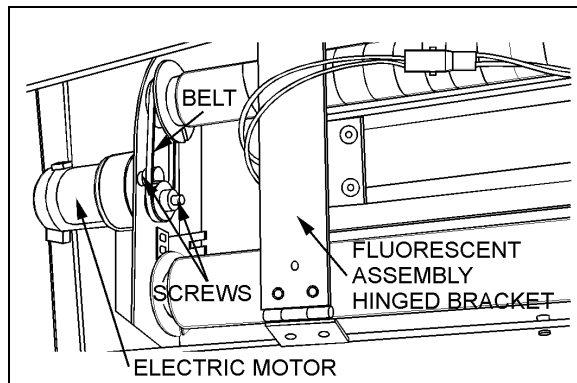

FIGURE 20: DESTINATION SIGN-ELECTRIC MOTOR²³⁰³⁴
3. Remove both screws retaining motor to destination sign frame (Fig. 20).